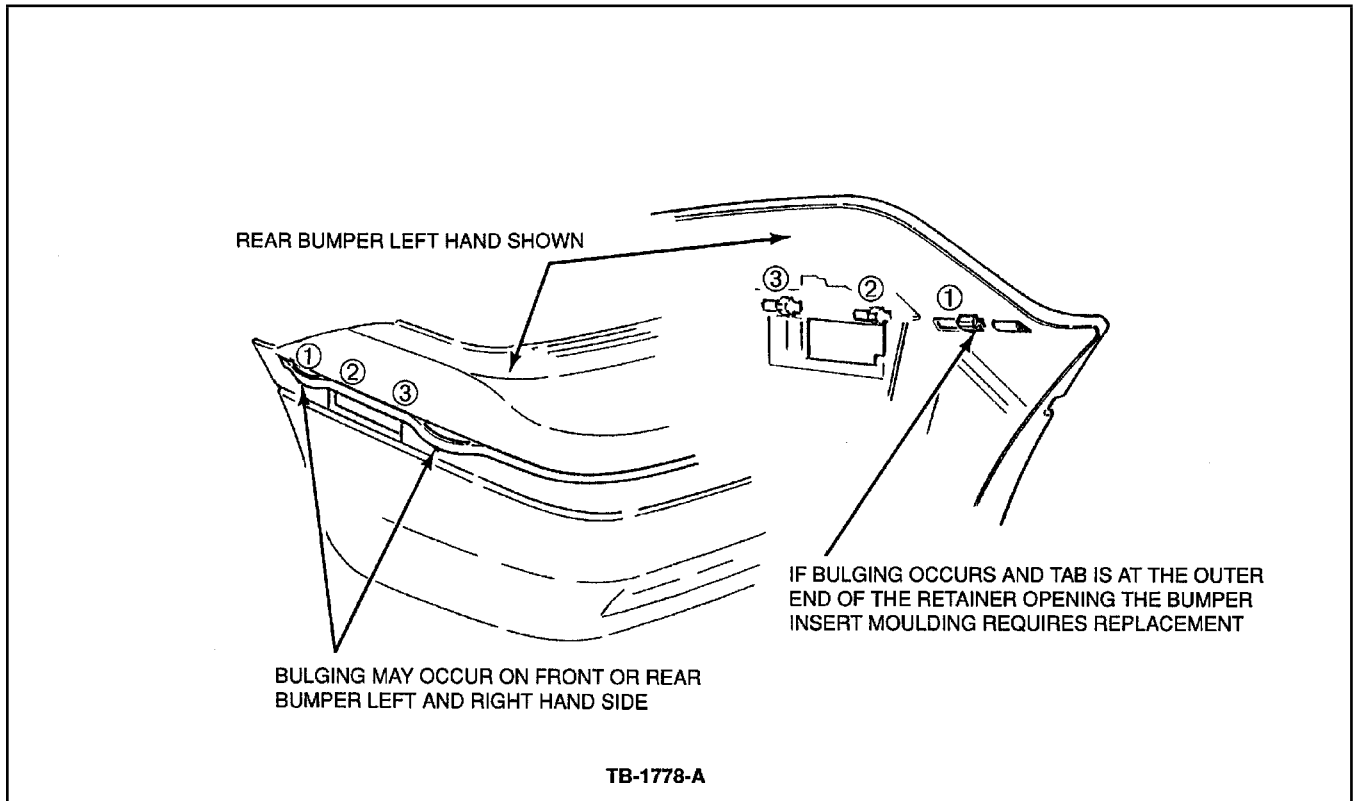

Figure 4 - Article 90-22-4
4. Replace the insert moulding if the bulge is between the first and second or subsequent retaining tabs and the tabs are against the outer end of the retainer opening, Figure 4. See the following bumper insert replacement procedure.